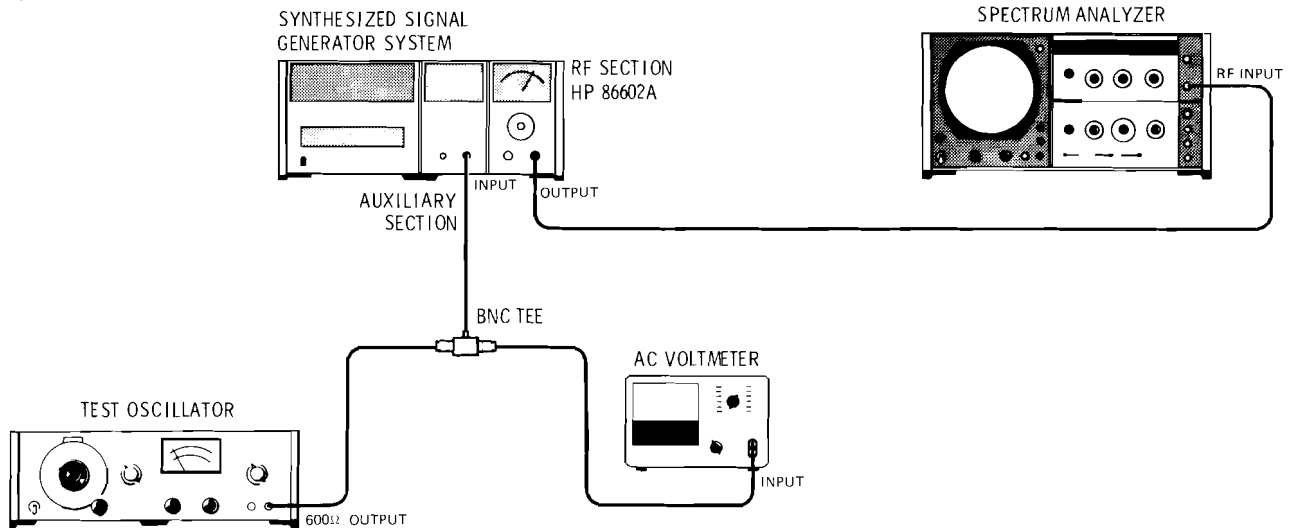

Figure 4-5. Amplitude Modulation Test Setup
2. Connect the equipment as shown in Figure 4-5.